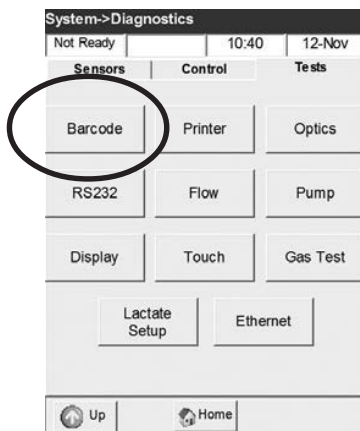

Fig. 7-12 Barcode Test
- Press **<Barcode>** to start the test (Fig. 7-12).